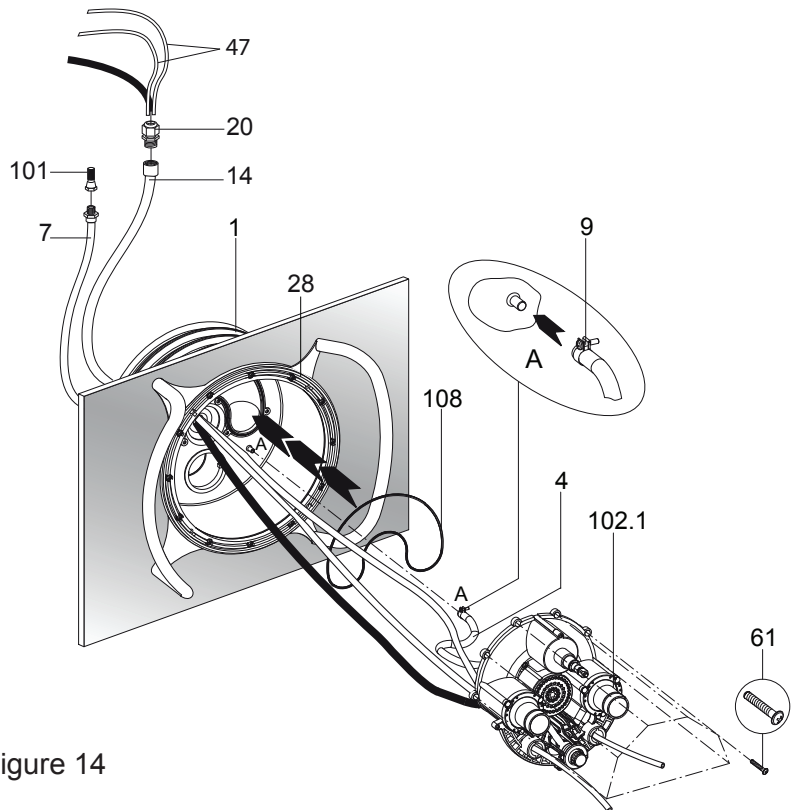

Figure 14
2. Insert the o-ring (part# 62) in the jet housing as shown in Figure 14.
3. Start the ten (10) nozzle housing tapping screws (part# 61) into the pre-assembled nozzle housing (part# 102.1). Place the nozzle housing at the main jet housing.
4. Feed the pneumatic hoses (part# 47) through the protective conduit as shown in Figure 14. Allow enough pneumatic hose to reach the control box and pneumatic buttons. Excess can be trimmed upon installation. Mark each end with a marker. (P = Pump & L = Light.)